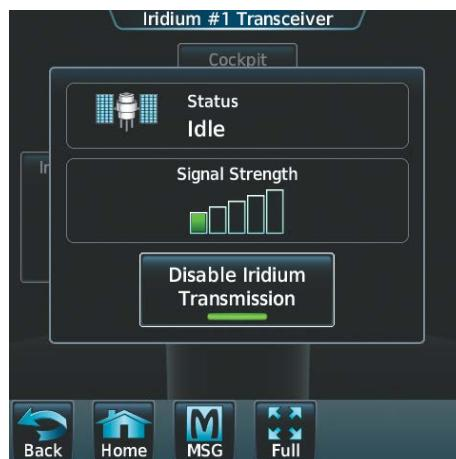

Figure 8-44 Iridium Transceiver Disabled
- 3) Touch the **Disable Iridium Transmission** Annunciator Button to disable (green annunciator as in Figure 8-44) the transceiver. Touch the button again to enable (gray annunciator) the transceiver.